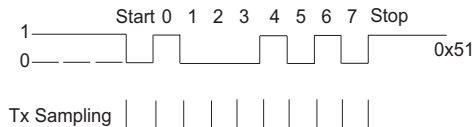

Figure 4. TX Sampling when Transmitting Data
To transmit data, the start value of the timer register is set to zero and the timer reload value is set to generate interrupts at one-bit intervals. See Figure 4 on page 4.
2. The `Tx_DATA` register contains the valid data to be transmitted. It is read, loaded into an intermediate buffer, and shifted out to Port A0, one bit at a time, from bit 0 to bit 7. `Tx_COUNT` is incremented after each bit is transmitted (see Figure 4).